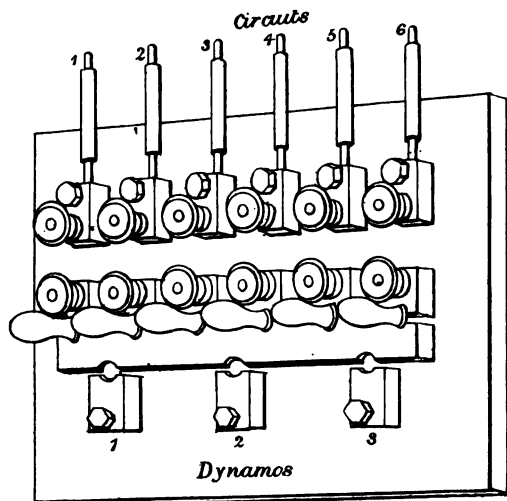

Fig. 18.—Admiralty Pattern Negative Switch-board.
*Negative Switch-board.*—A view of the negative switch-board used in the English navy is given in Fig. 18. It consists of an incombustible base, upon which are mounted, at the upper end, the connection blocks 1, 2 and 3. These receive the ends of pieces